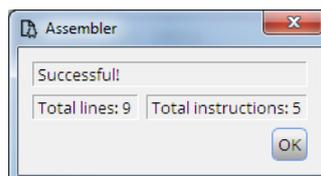

Figure 59: Progress of the TMCL/PC Assembly
- Assemble: Select *Assemble* from the *TMCL/PC* menu to assemble a file. If more than one file is open the currently selected file will be assembled. The process of the assembly is shown in a dialog (figure 59).